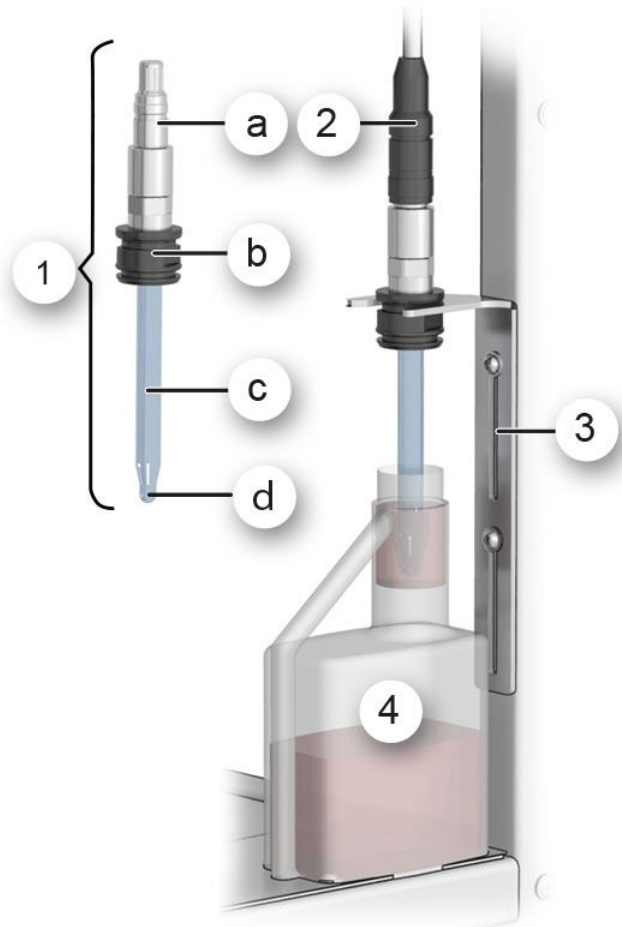

Figure 29: Overview of calibration
2.	Remove the pH sensor according to Section 4.3.1 and position it in the slide holder (Figure 29).